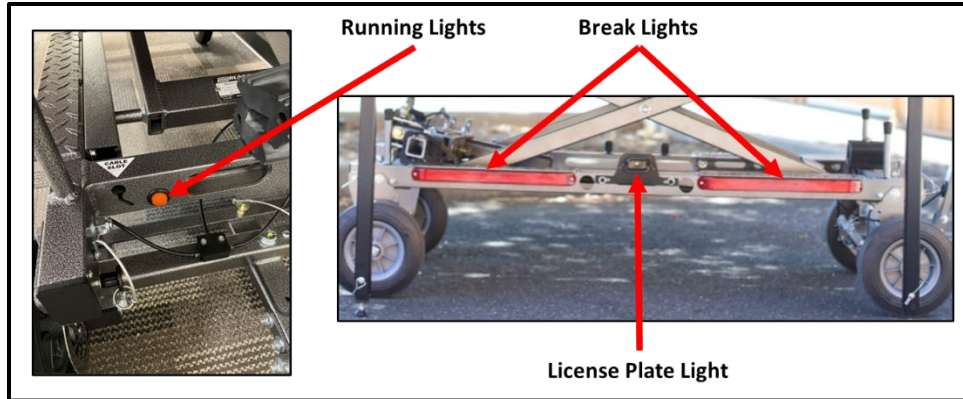

Figure 6. Command Runner lights
5. Verify that the license plate light, both break lights, and the two running lights on the side of the Command Runner, are OFF. Refer to Figure 6 for the location of each light.